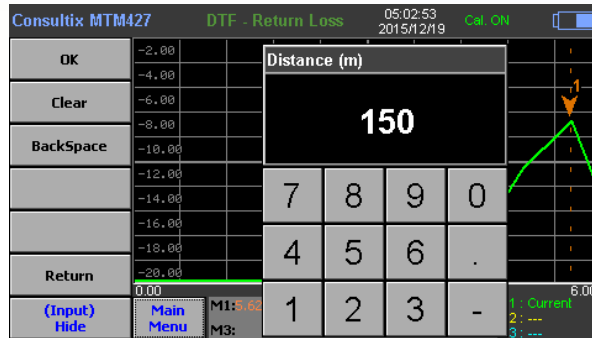

Figure 42: Distance setting
3. **Main Menu > Measurements > Distance**, enter the length of the line system (DUT) as shown in **figure 42**